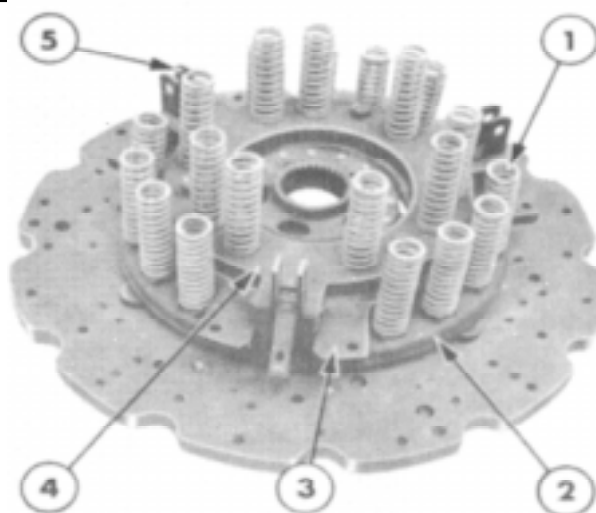

Figure 14
- The transmission and P.T.O. clutch springs are identified and their relative positions indicated in Figure 14.